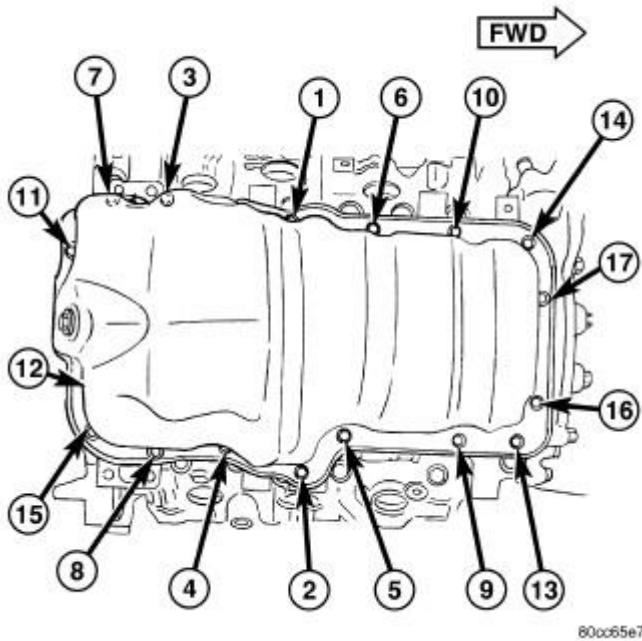

Fig. 126: Oil Pan Bolt Tightening Sequence
8. Install and tighten the oil pan bolts. Refer to **Fig. 126**.